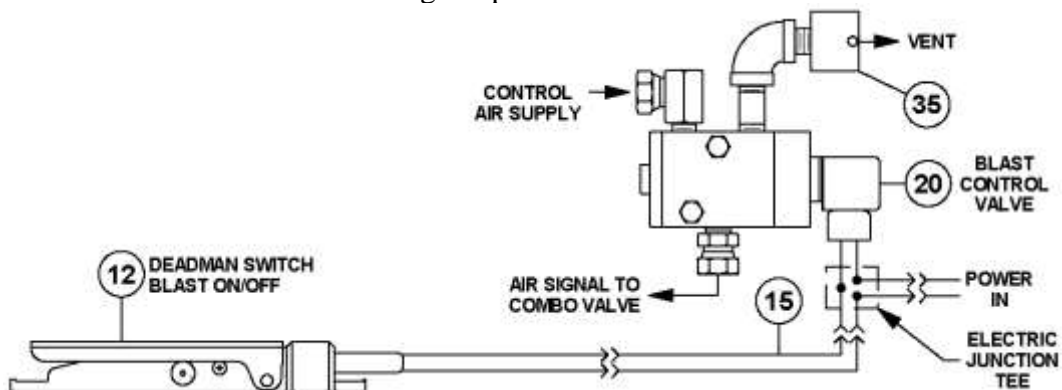

Figure 5.5 – Tera Valve™ Electric Blast Control System
5.9.2. Electric Deadman System: When the electric deadman lever (#12) is pressed down it closes the electric circuit and supplies electric current to the control valve (#20). The control valve opens and sends air signals to the auto air valve (#9) and the Tera Valve (#14). When the deadman lever is released, the electric circuit is cut off, closing the control valve. The signal air vents from the breather (#35). See Figure 5.5 and the drawing in Section 9.2.